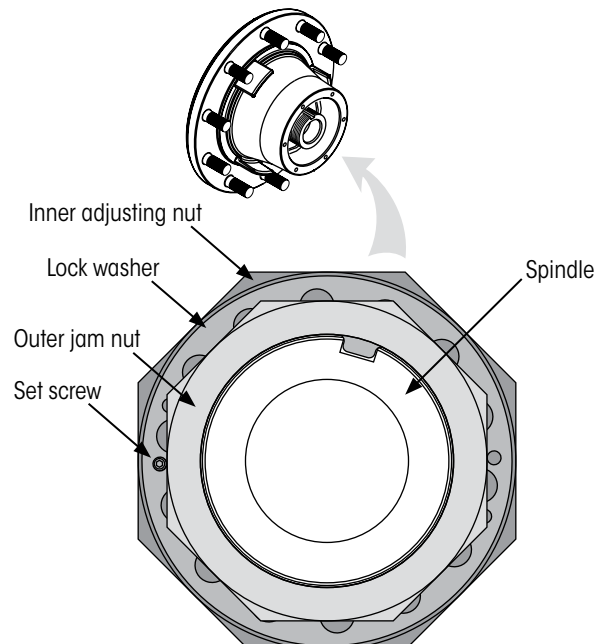
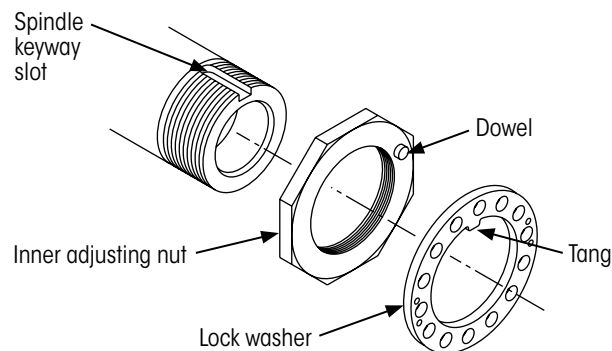
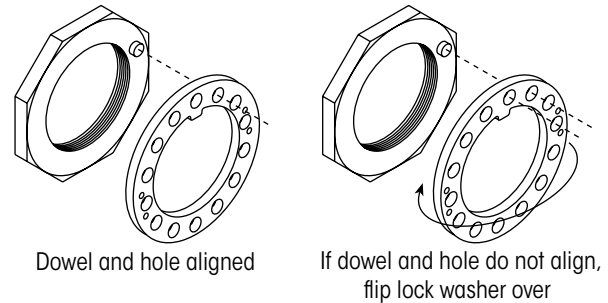

Figure 15: Three-piece nut system components
Figure 16: Adjusting nut and lock washer installation
Figure 17: Align adjusting nut dowel with hole in lock washer
The three-piece spindle nut system (Figure 15 on page 15) includes an inner adjusting nut, lock washer, inner jam nut and set screw.
1. Install inner adjusting nut (Figure 16) on spindle, dowel side out, and tighten to 200 ft. lbs. (271 Nm) of torque while rotating wheel.
6. Install lock washer (Figure 16). Ensure lock washer tang fits in the spindle keyway slot and inner adjusting nut dowel fits in one of the holes in the lock washer. If this alignment cannot be achieved, remove the lock washer, flip it over and reinstall it on spindle (Figure 17).
8. Install outer jam nut (Figure 15).
- i. **Remove** outer jam nut (Figure 15).
NOTE: If a smaller tightening increment is desired, remove lock washer from the spindle, flip it over, reinstall it on the spindle and tighten inner nut so its dowel aligns with the next alignment hole in the lock washer (Figure 17).
NOTE: If a smaller loosening increment is desired, remove lock washer from spindle, flip it over, reinstall it on spindle and loosen inner adjusting nut so its dowel aligns with the previous alignment hole in lock washer (Figure 17).
in lock washer (Figure 15). Set screw must contact inner adjusting nut. Tighten to 18±2 in. lbs. (2.0±0.0 Nm) of torque.
1. **Ensure** lock washer is properly positioned and flush with inner adjusting nut at dowel pin (Figure 15 and Figure 17).